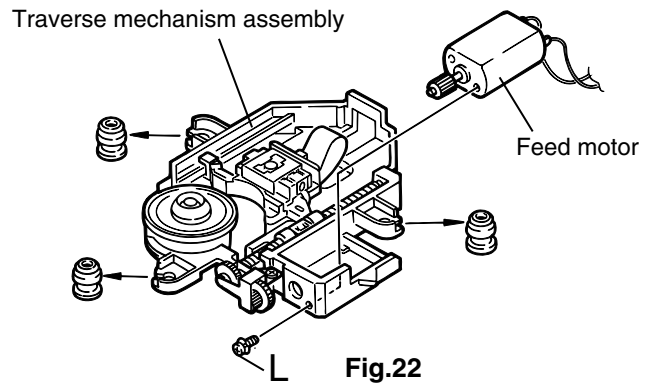

Fig.22
■Removing the feed motor (See Fig.22)